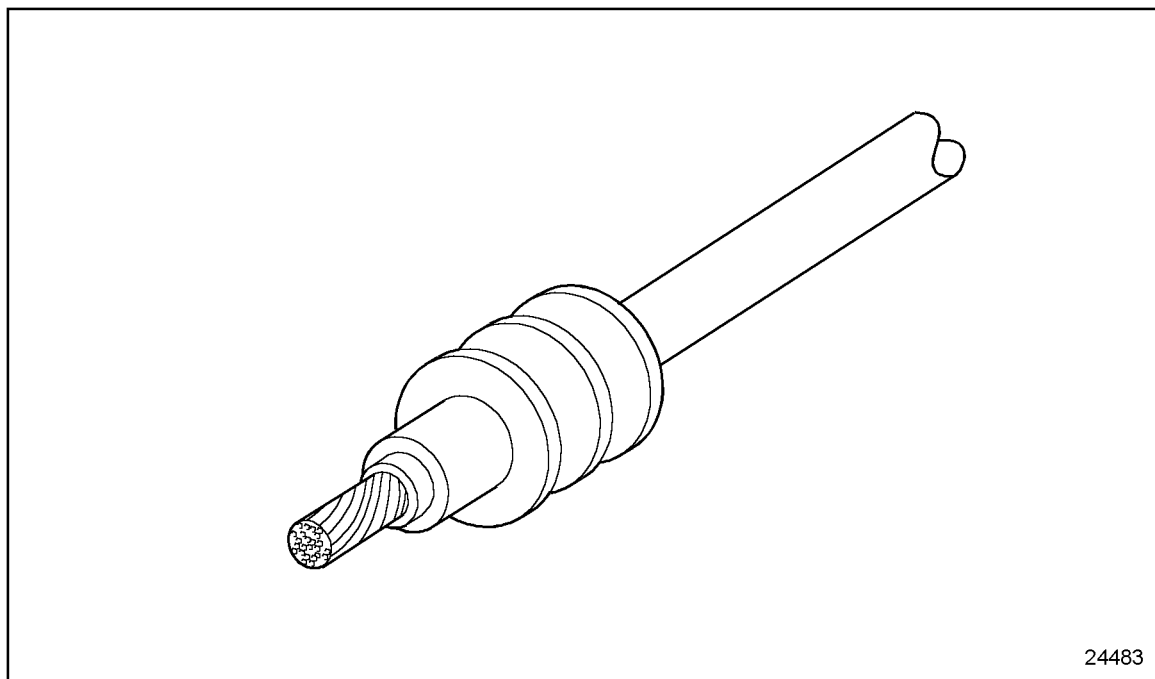

Figure 8-10 Seal Positioning
1. Position a seal on each terminal lead so 5.0 ± 0.5 mm (0.20 ± 0.02 in.) conductor and 1.0 ± 0.1 mm (0.05 ± 0.005 in.) cable protrudes past the seal after being stripped. See Figure 8-10.